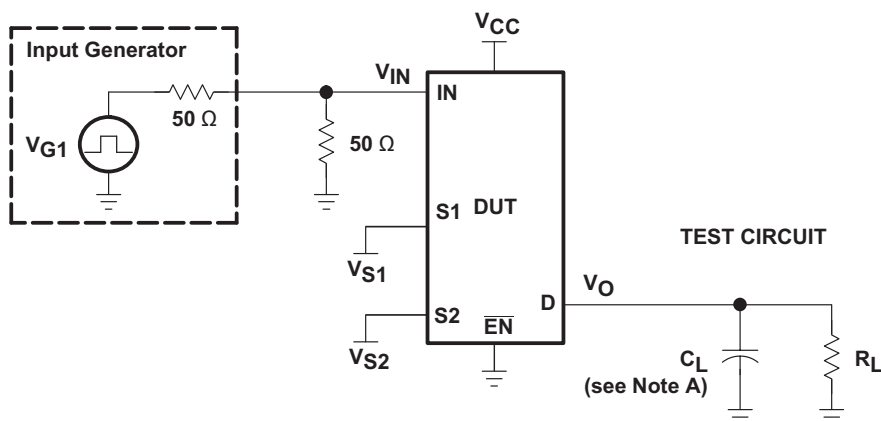
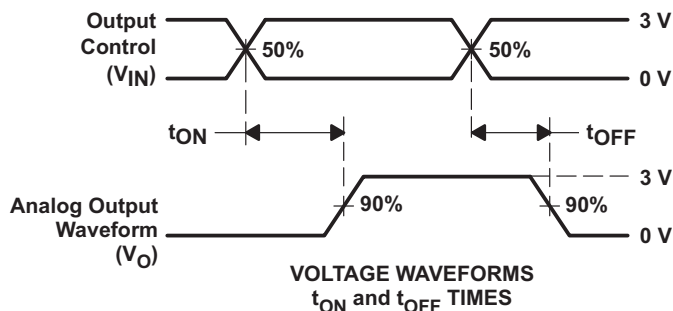

**Figure 7. Device Test Setup**
**Figure 8. Transient Input Voltage ( $V'$ ) and Output Voltage ( $V_{OUTU}$ ) Waveforms (Switch OFF)**
**Table 3. UNDERSHOOT CHARACTERISTICS (see Figure 7 and Figure 8)**